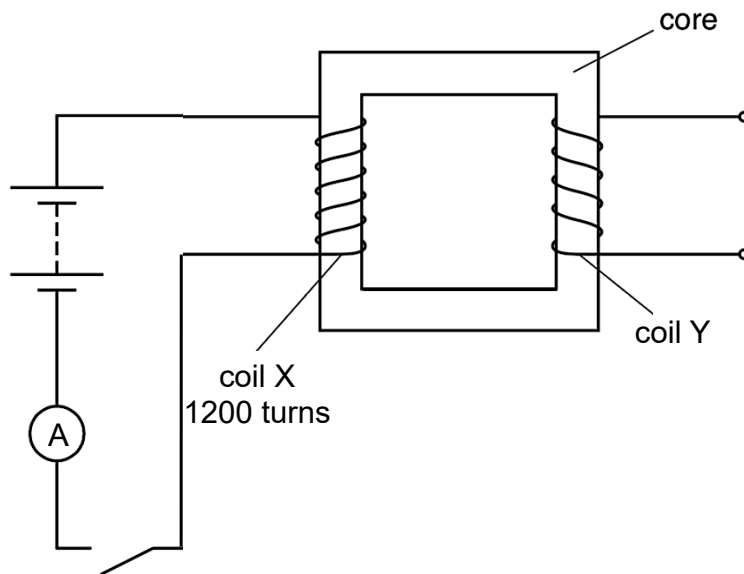

Fig. 7.2
- (b) Coil Y is now wound on the soft iron, as shown in Fig. 7.2.